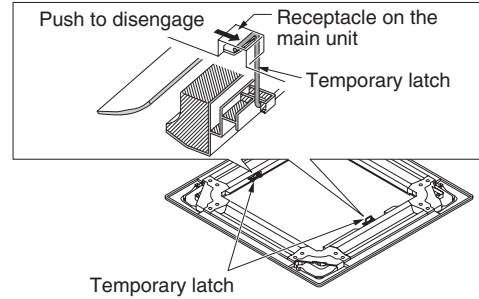

Fig. 7-4
- 1) Hang the temporary latches on the inside of the ceiling panel to the receptacle on the unit to temporarily attach the ceiling panel in place. (Fig. 7-4)
- When removing the ceiling panel, push the temporary latches outward while holding the ceiling panel. (Fig. 7-4)